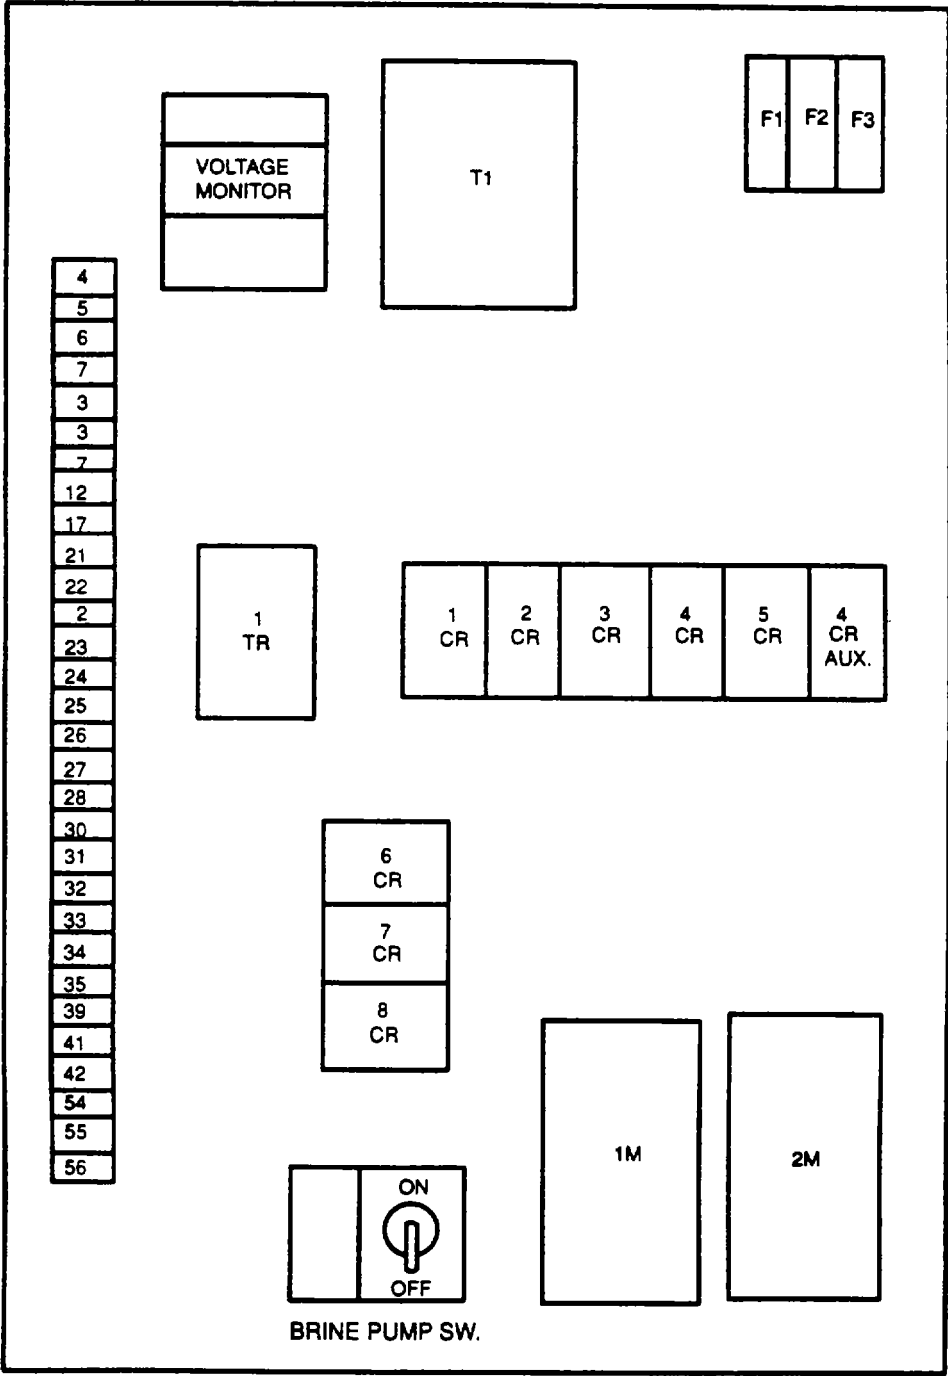

Figure 3-6. Interior of Chlorination Unit Control Cabinet
- d. Turn brine pump ON/OFF switch inside control cabinet (Figure 3-6) to OFF.
- (1) Make sure cooling pump is operating. If not operating, open valves SW3, SW27, SW35, and SW36 to provide seawater from seawater strainer 3 to strainer pressure gauges and cooling pump. Start pump by pressing START button on pump motor controller.
- (2) Open seawater valve SW47 to allow seawater flow to chlorination unit.
- (3) Close seawater valve SW48 to stop seawater flow from seawater pump.
- (4) Attach hose to hose bib on seawater to chlorination system line in void 2 port.
- (5) Go to step i to prime brine tank or to step j to prime holding tank.